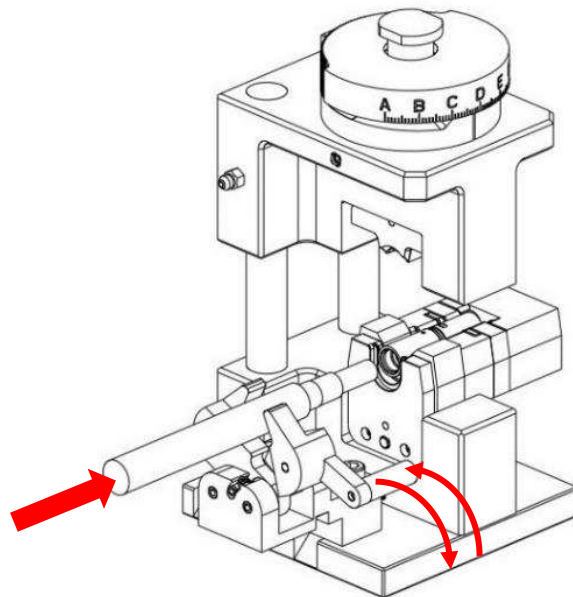

Figure 3b
2. Open the wire clamp by pressing down on the lever. Insert the properly stripped wire into the wire barrel of the terminal (see Figure 3b). Ensure that there are no exposed strands. Release lever to clamp wire in place.